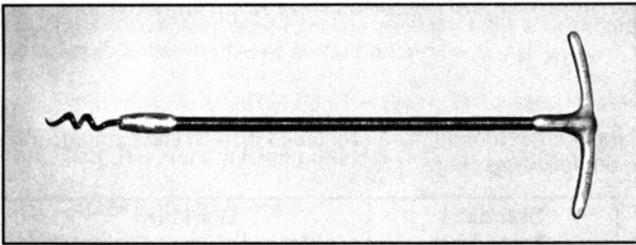

Figure 4-2. Packing Removal Tool
1. Remove the gland nuts (A) and packing gland (13) from the packing retainer (15).
2. Use a pair of packing extractors (Fig. 4-2) to remove the first three packing rings (14), the lantern rings (19) and the last three packing rings.